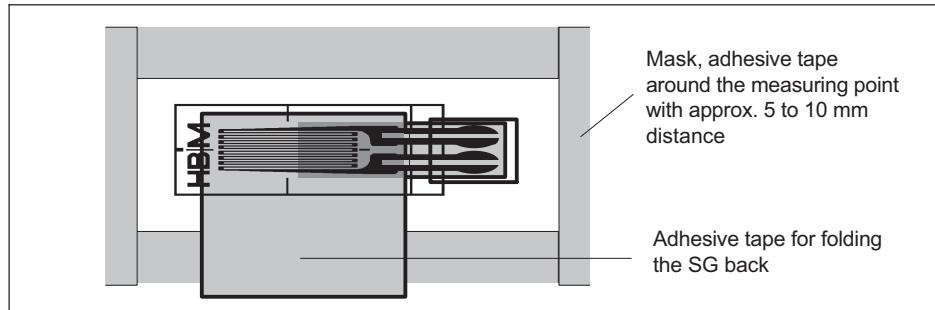

Fig. 5.4 Preparing the SG installation point
- Apply adhesive tape around the installation area at a distance of approx. 5 to 10 mm (see Fig. 5.4).